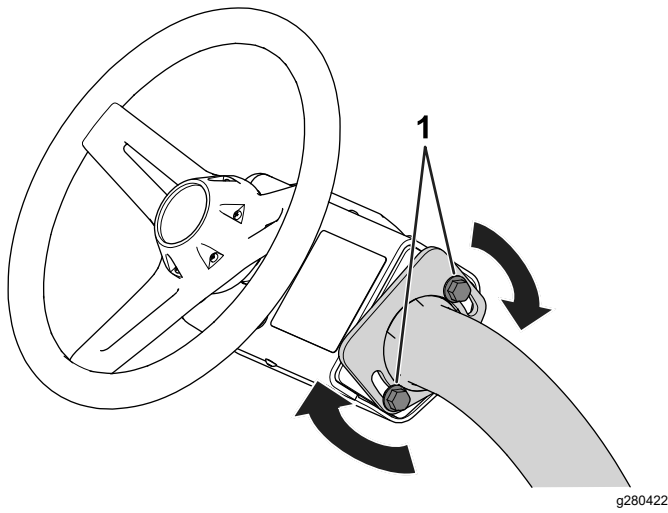

Figure 37
1. Loosen the bolts (Figure 37) that secure the steering-wheel assembly to the steering arm.
3. Tighten the bolts (Figure 37) to secure the steering-wheel assembly in your adjusted position.